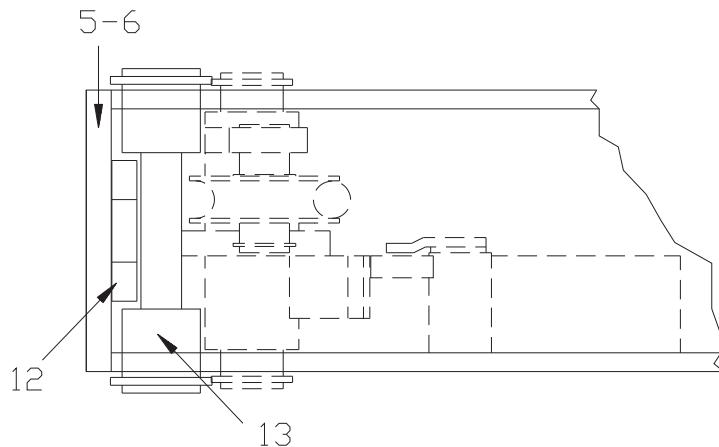

Fig.43 Housing for fitting safety rod
Position the posts at the end of the cross-pieces (pos. 5-6, fig.39) observing the numbering and the lay-out shown in figure 39. Fit the safety rods (12) from the top of the posts, inserting them between the rear face of the cross-pieces (5-6) and the guide pins (13) as shown in figure 43. Check the safety rods are straight. Fit the safety rods with the rounded edges of the slots towards the front of the posts.